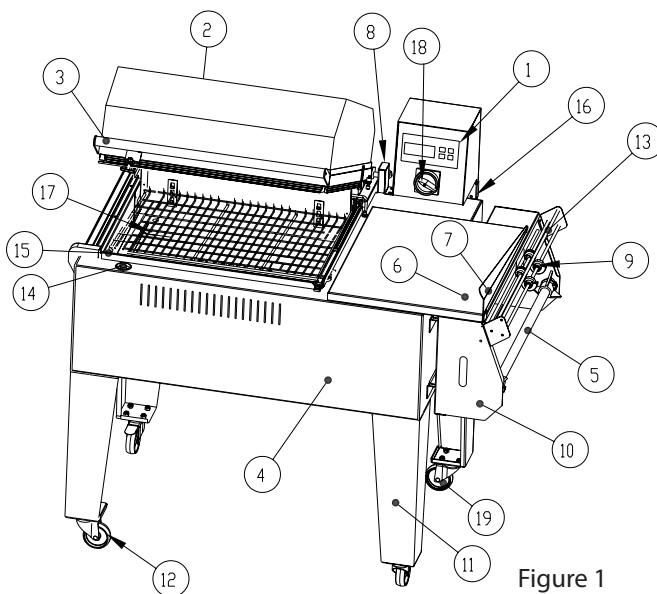

Figure 1
- Do not touch the sealing blade shown in Figure 1 (number 15) during operation or right after operation.